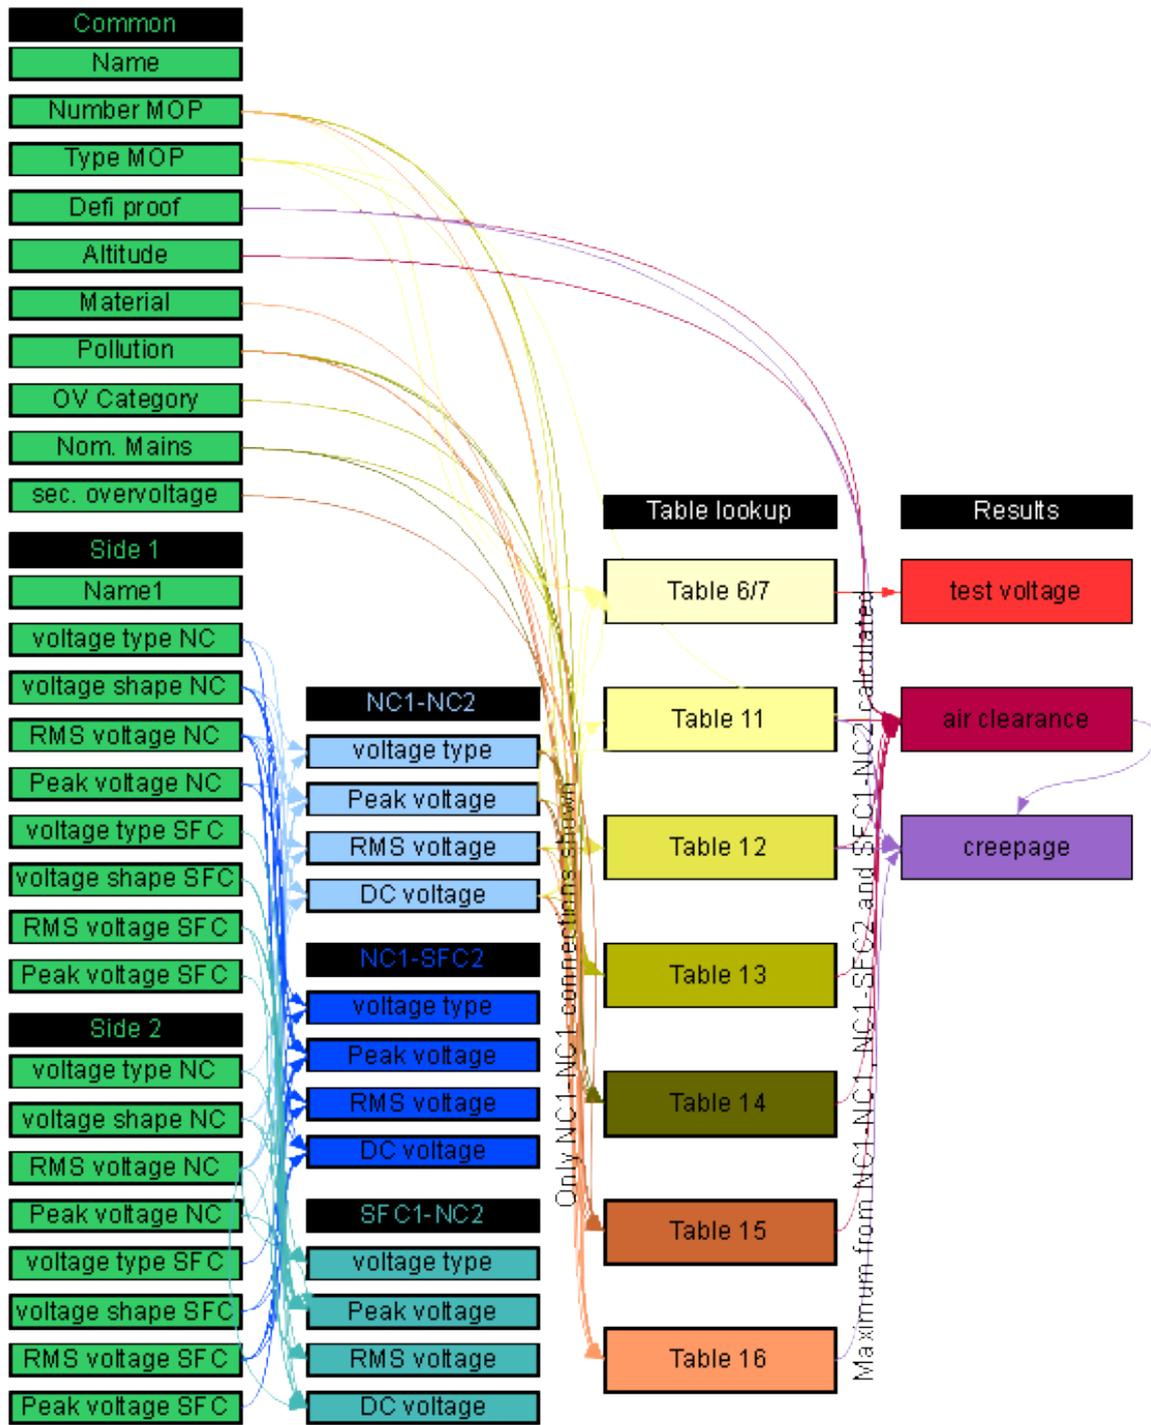

Figure 19: Dependencies for the 3rd edition of the IEC 60601-1
Figure 19 tries to show the dependencies of the calculated results from the input values. The calculation is done in four steps.
2. The working voltages in combination with other input values are used to get the appropriate results of the tables of the IEC 60601-1. Figure 19 shows only the dependencies for the NC1-NC2 condition. MOPP dominates over MOOP, so table 12 is used whenever MOPP is set in the Common Tab.